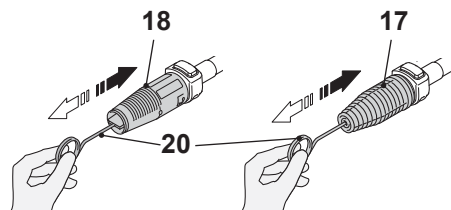

Fig. 18
Remove any dirt deposits from the nozzle (17/18) hole using the cleaning needle (20) (Fig. 18).